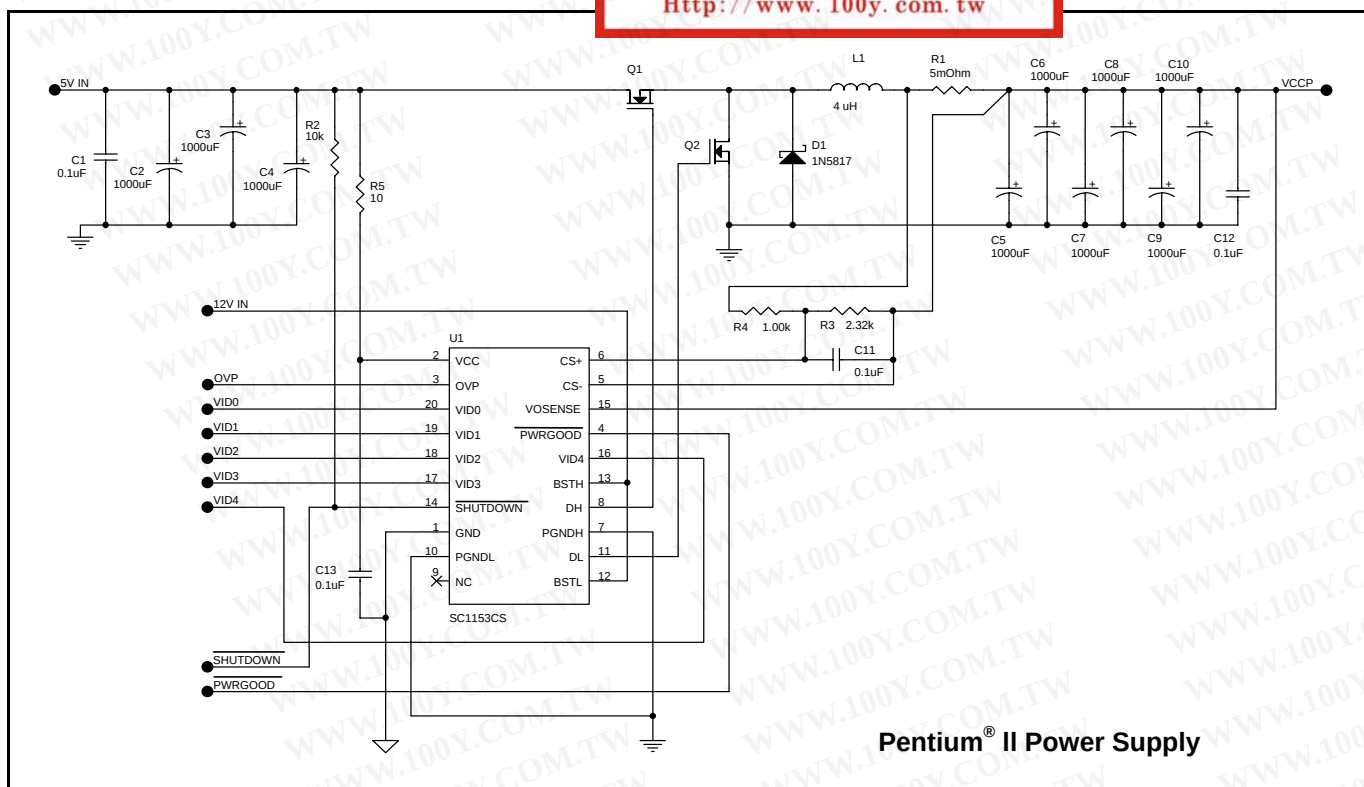

Figure 1.
- (1) Specification refers to application circuit (Figure 1.).
- (2) This part is ESD sensitive. Use of standard ESD handling precautions is required.
SC1153 Efficiency in Application Circuit (Figure 1).
SC1153 Regulation in Application Circuit (Figure 1).